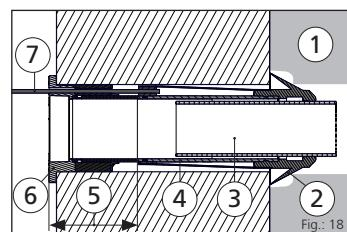

Fig.: 18
- The quick tensioning device can be used to position the driving pipe (see Fig. 18).
### Legend for Fig.: 18